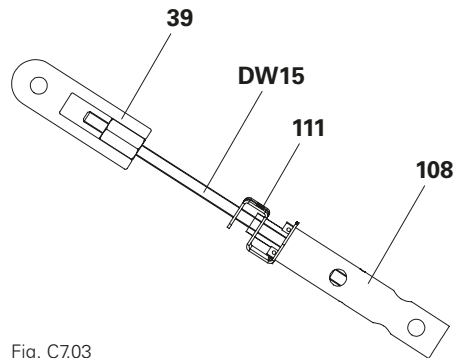

Fig. C7.03
3. Screw together clamping units consisting of H-Load Tie Yoke DW15 (**39**), Tie Rod DW15, Articulated Spanner DW15 (**108**) and Twist Lock Articulated Spanner DW15 (**111**). (Fig. C7.03)